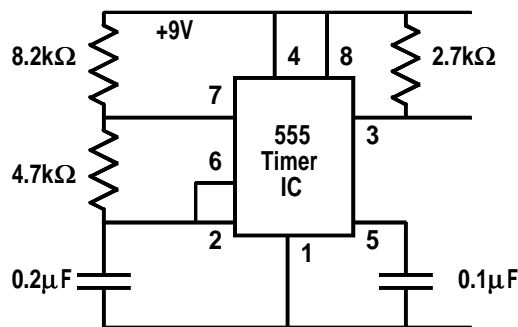

Figure 52.9: Problem 52.6.
- 52.6 Calculate the output, at pin 3, from the circuit shown in Figure 52.9. Sketch the voltage waveforms which would be observed with an oscilloscope when Channel A is connected to pin 3 and Channel B is connected across the capacitor.